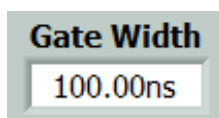

Figure 2.14. Gate width configuration.
The duration of the enable pulse of the SPAD detector can be set in a range of values that span over more than three decades. In particular there are two different ranges: one from 1.5 ns to 10 ns, with a programmable step of 40 ps and a second one from 10 ns up to 510 ns, with steps of 2 ns. The selection of the range is automatically chosen by the program, according to the value inserted in the *Gate Width* control, shown in Figure 2.14.
4. Enter a *Gate Width* in the control shown in Figure 2.14.